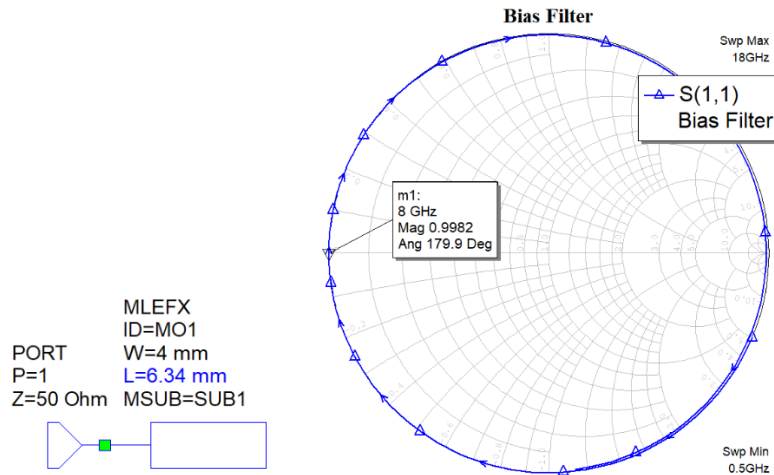

Fig. 9 Open stub with  $\lambda_g/4$  length to produce a short circuit at design frequency.
- Create a new schematic called Bias Filter and insert an open section of microstrip line MLEF with width 4 mm and length  $\lambda_g/4$  in it. Tune its length to produce a short circuit at design frequency as shown in Fig. 9.